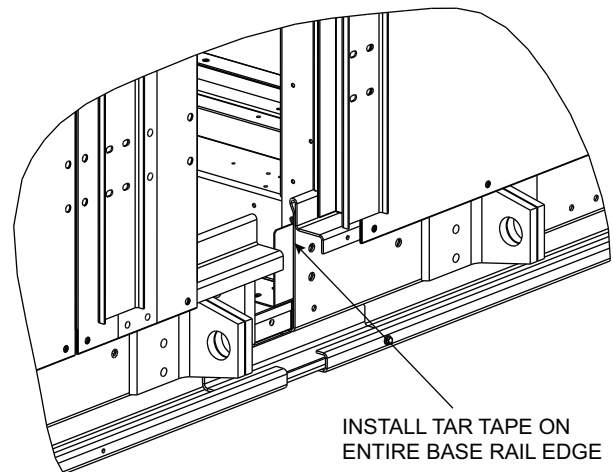

Fig. 40 — Tar Tape Location
9. Install tar tape on edge of main unit base rails to seal base rail splice. See Fig. 40.